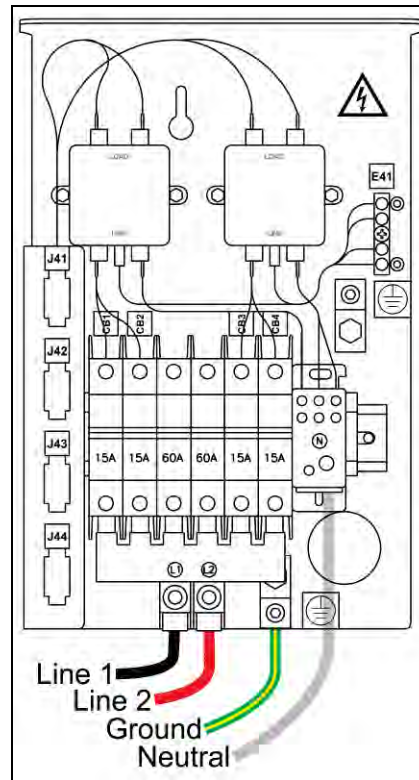

Figure 14: 120/240 V Single-Phase Power Termination
4. Connect the neutral wire to the neutral lug and the live wires to Line 1 and Line 2. Refer to **Figure 14.**